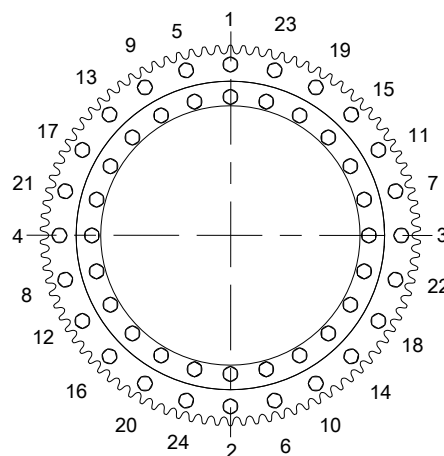

Figure 6-13
3. Place the forklift fork at the bottom of the battery box to be removed (as indicated by the arrow in Fig 6-13, page 6-11) to support the battery box.